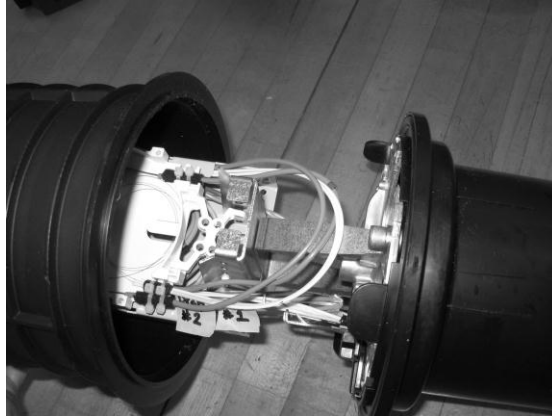

Figure 19 – Assemble the dome and closure base.
4.27 Assemble the Closure Dome: Position the O-ring on the rim of the closure base and assemble the dome and base sections. Align the tabs on the closure base with the slots in the dome (Figure 19). Slide together to seat. **Note:** Place all unused cable termination hardware in a bag and in store in the closure for future cable terminations.